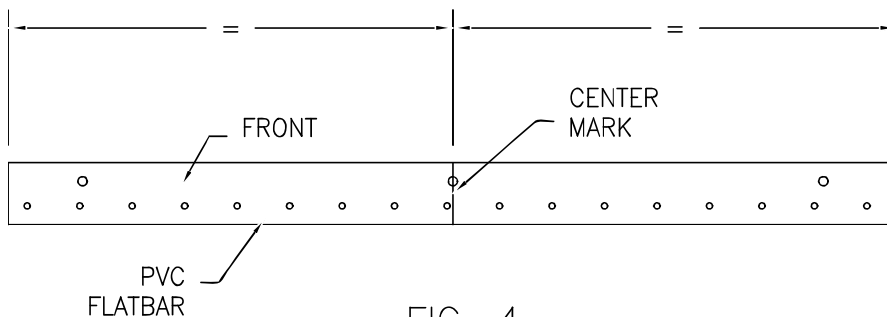

FIG. 4
3. Mark centre of flat bar on the front surface (Fig. 4)